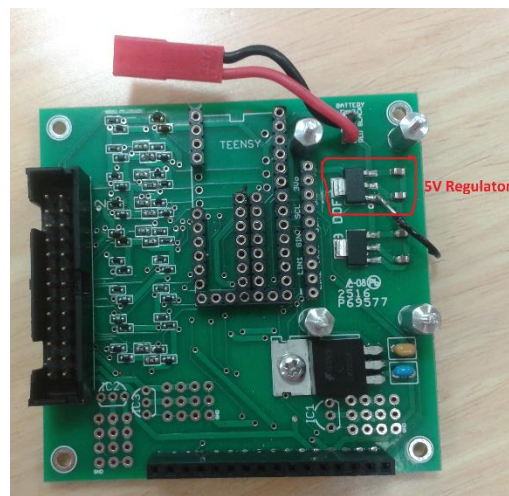

Figure 7. 5V SMT Regulator and Bypass Capacitors
- **Voltage Regulators:** The Teensy and Adafruit 9-DOF IMU run on 5V. A 5V surface-mount (SMT) voltage regulator powers both of them (see Figure 7). Both bypass capacitors for the 5V SMT regulators are 10uF.